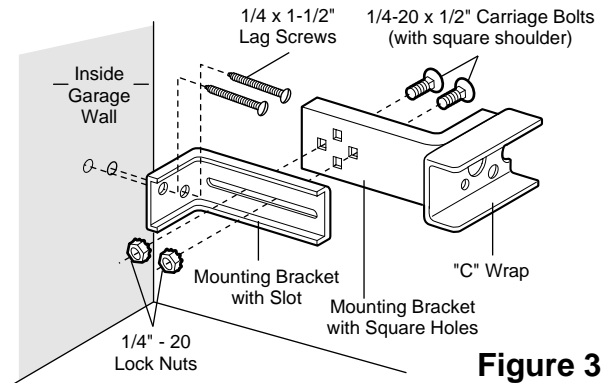

Figure 3
- Connect each assembly to a slotted bracket, using the hardware shown in Figure 3. **Note alignment of brackets for left and right sides of the door.**
- Use bracket mounting holes as a template to locate and drill (2) 3/16" diameter pilot holes on both sides of the garage door, 4"-6" above the floor but not exceeding 6". (See warning on page 17.)
- Attach bracket assemblies with 1/4"x1-1/2" lag screws as shown in Figure 3.